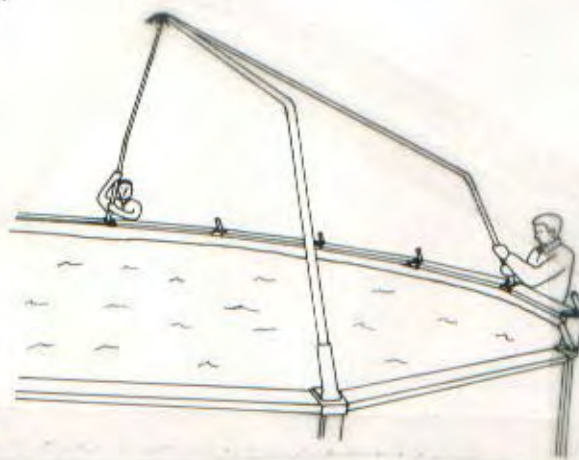

FIGURE 10
- F. Finish installing all rafter sets. See Figure 10.
H. Finish installing all adjusted rafter sets. See Figure 10, page 11.